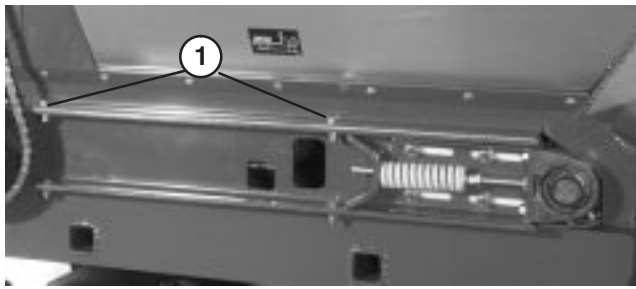

Figure 5
4. Remove (2) capscrews, washers and nut, on each side of machine, securing hopper to slider bed (Fig. 5).